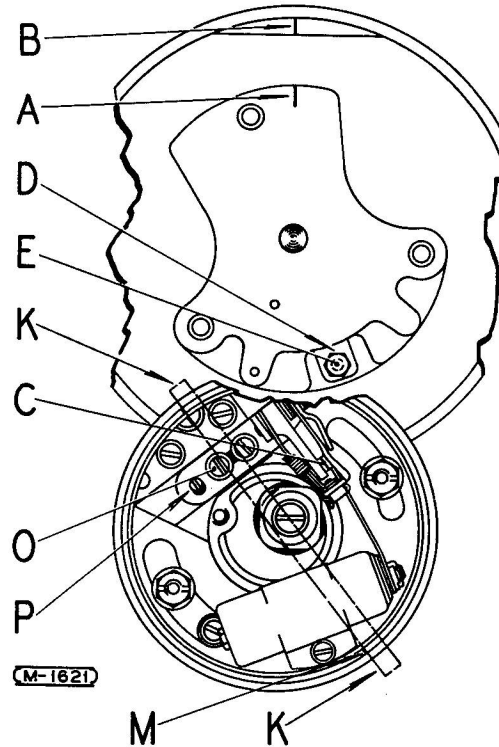

Fig. 1-2 No. 1 Firing Position of Magneto
17 Remove the coil cover, breaker cover and distributor block. Place the breaker in its full advance position. Turn the magneto drive shaft until the timing mark (A) (see figure 1-2) on the distributor finger is approximately aligned with the timing mark (B) on the inside of the front end plate when a straight edge (K) placed on the step cut in the cam coincides with the timing marks (M) on the rim of the breaker housing. At this position, the high tension electrode (D) on the distributor finger will be opposite the distributor block electrode (E) for firing the No. 1 cylinder. Install the magneto to the engine in the foregoing relation but do not tighten the cap screws or nuts to the extent that further adjustment cannot be made.
20 Complete the final timing adjustment by rotating the flexible member of the drive coupling until the magneto will engage at the exact No. 1 firing position at which time the straight edge (K) placed on the step of the cam coincides with the timing marks (M) on the rim of the breaker housing (see figure 1-2). It may be found that timing mark (A) on the distributor finger is not exactly opposite the timing mark (B) on the inside of the front end plate after making the final adjustment by having the straight edge (K) on the cam coinciding with the timing marks (M). However, any slight variance of the distributor finger timing mark (A) will not affect the operation of the magneto as this is merely used to locate the approximate firing position of the magneto for No. 1 cylinder.